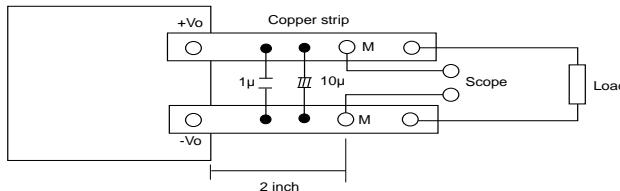
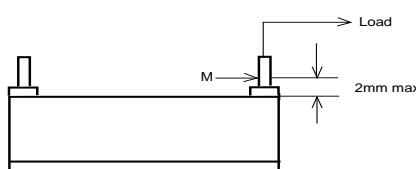

FIGURE 1 - OUTPUT RIPPLE AND STEP LOAD SETUP
FIGURE 2 - EFFICIENCY TEST SET UP
* Please refer to figure1 for the output ripple, step load set up and figure 2 for the efficiency set up